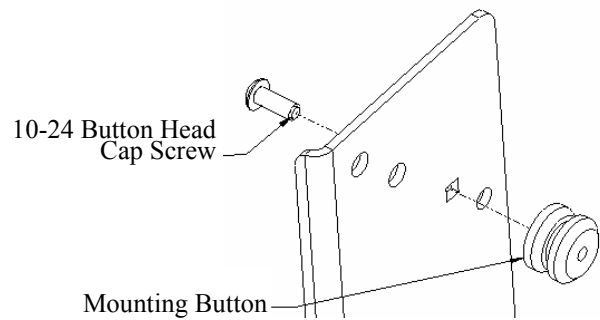
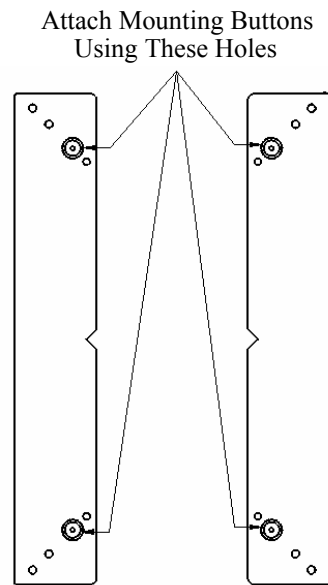

Figure 2. Mounting Button Attachment
Figure 3. Mounting Button Location
1. Using a 10-24 button head cap screw inserted from the backside of the bracket (see Figure 2), secure the mounting button with the chamfered hole of mounting button (larger surface) facing the bracket (see Figure 3).